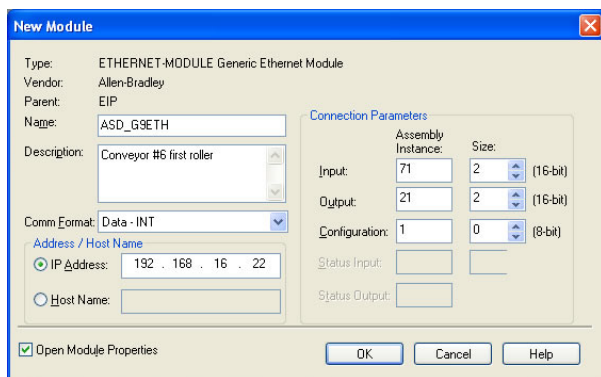

Figure 87: AC/DC Drive Profile Generic Ethernet Module Configuration
- 1) Complete all the steps in section 13.2.4. Please note that the Assembly Input Instance must be changed to 71 and the Assembly Output Instance must be changed to 21. Refer to Figure 87.